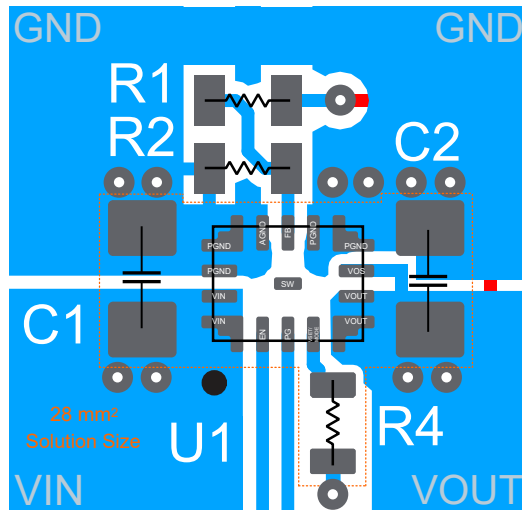
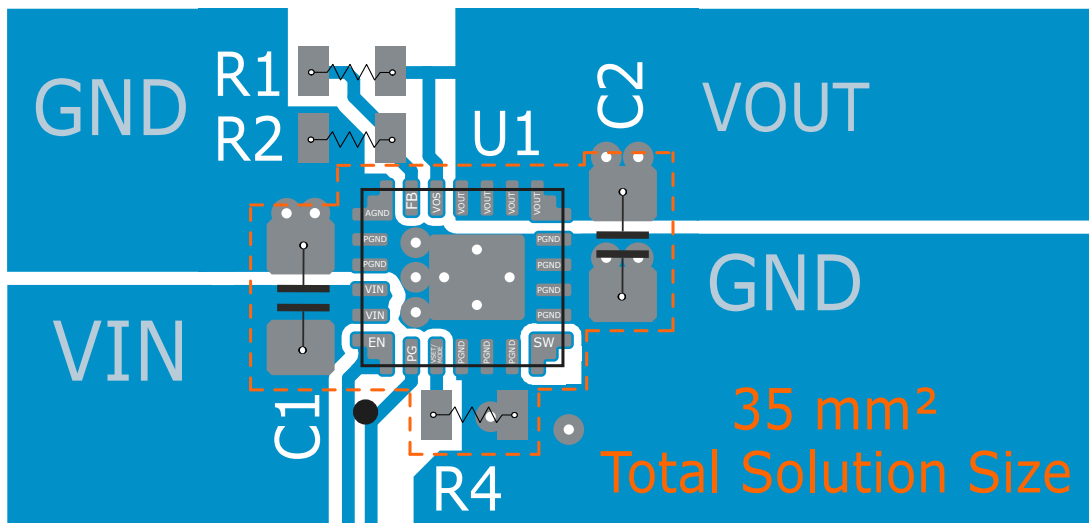

図 8-42. Layout Example RCF package
図 8-43. Layout Example RDJ and RDM package
- Refer to Figure 8-42 and Figure 8-43 for an example of component placement, routing, and thermal design.